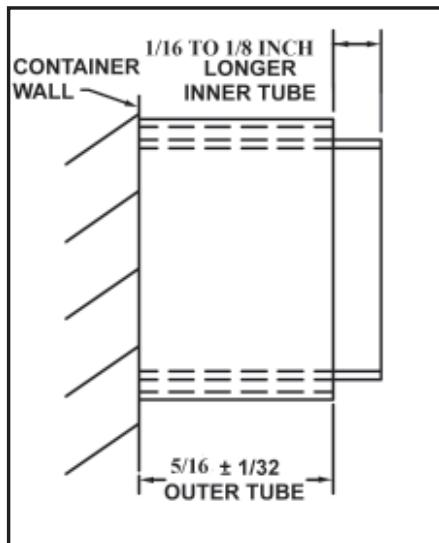

Figure 10 - Inner and Outer Tubes
- Install the inner tube on the lock case. Feed the cables through the outer tube and install the outer tube on the lock case. Measure and mark the inner tube to be 1/16 to 1/8 inch longer than the outer tube. (See Figure 10.) Remove the inner tube and cut by the same method as described in Step 5.
Note: Make sure the tubes are projecting through the container as shown in Figure 10. If not, the tubes are not seated properly in the lock or they were not cut to the proper length. Correct the problem before proceeding.